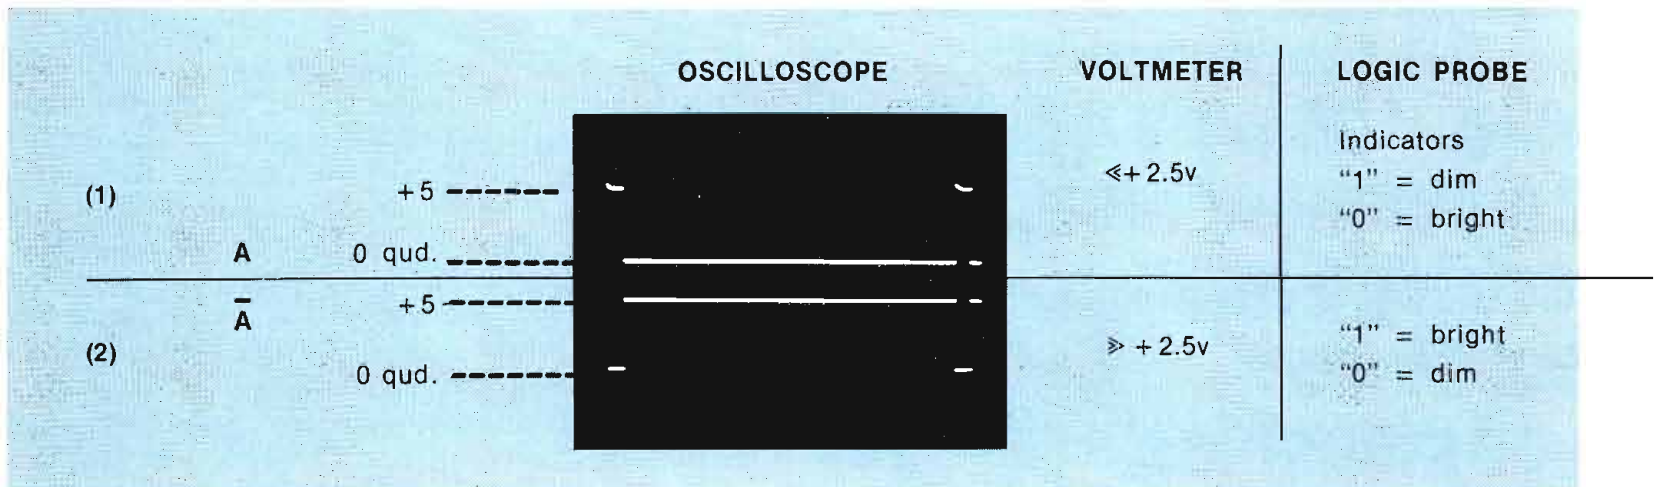

Figure 2. A complementary waveform is inverted, but in both cases, low equals zero or ground, and high equals +5 volts in this example.
Figure 2 shows you exactly what **complementary** waveforms are. If waveform (1) is A, waveform (2) is \bar{A} (A NOT). If waveform A is 010101, then waveform \bar{A} is 101010. Note that in either case, the "low" is ground, and the "high" is +5 volts. This is the most usual clock waveform voltage for TTL (transistor-to-transistor logic).